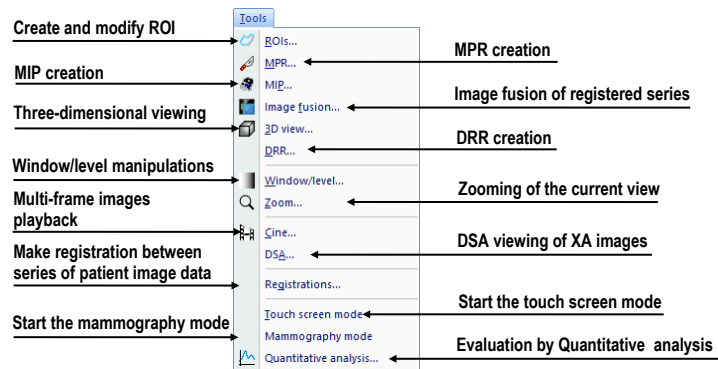

Figure 40 – Tools menu
- **Tools** – tools for image data handling such as windowing/zooming, 3D viewing, reconstructed viewing (MPR, MIP, DRR), subtraction (DSA), creating regions of interests and registrations, defining multi-modal registrations and launching the touch screen and mammography modes (see Figure 40).